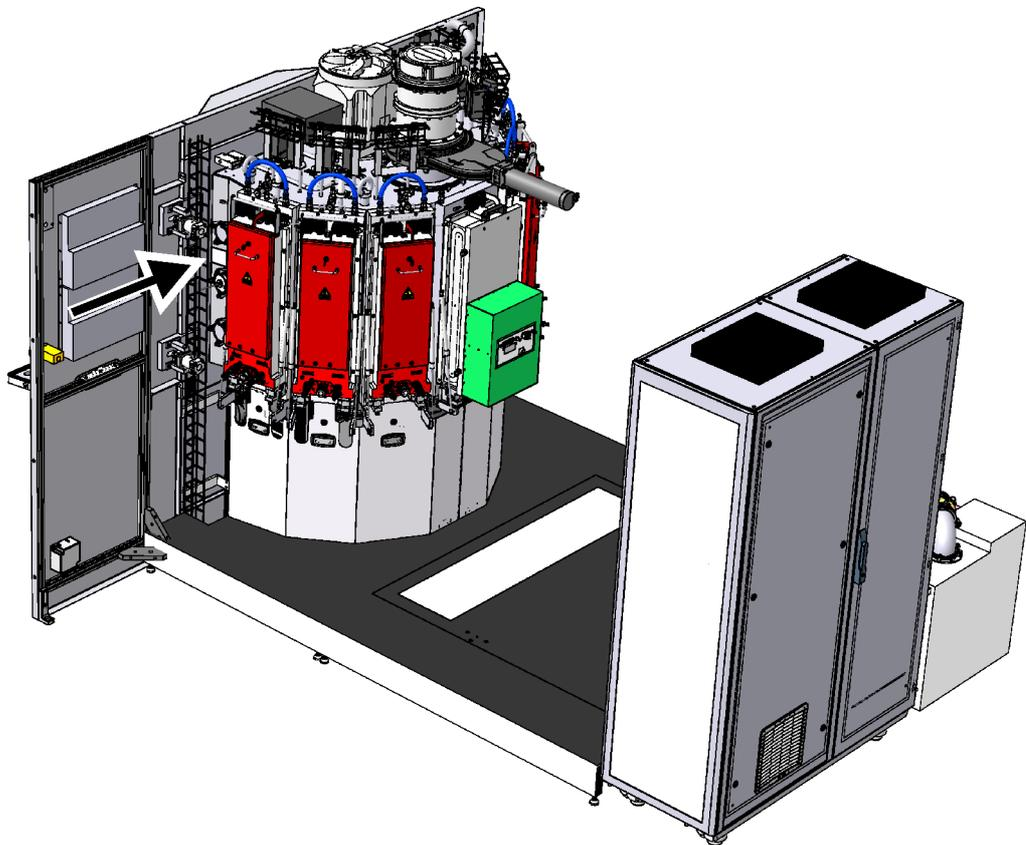

Fig. 1-1
- ◆ At the back of the process chamber. See Fig. 1-1, 11.